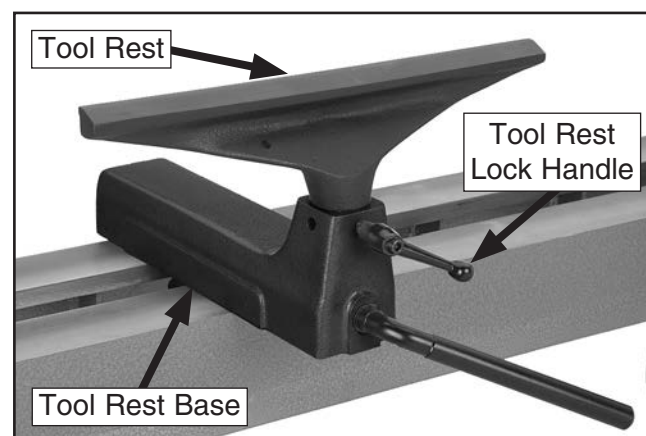

Figure 16. Tool rest installed tool rest base.
9. Insert tool rest into tool rest base and tighten tool rest lock handle, as shown in **Figure 16**.